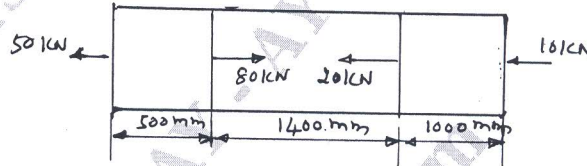

Fig.Q1(c)
- c. A brass bar having cross-sectional area 300 mm^2 is subjected to axial forces as shown in Fig.Q1(c). Find the total elongation of the bar. $E = 84 \text{ GPa}$. (10 Marks)